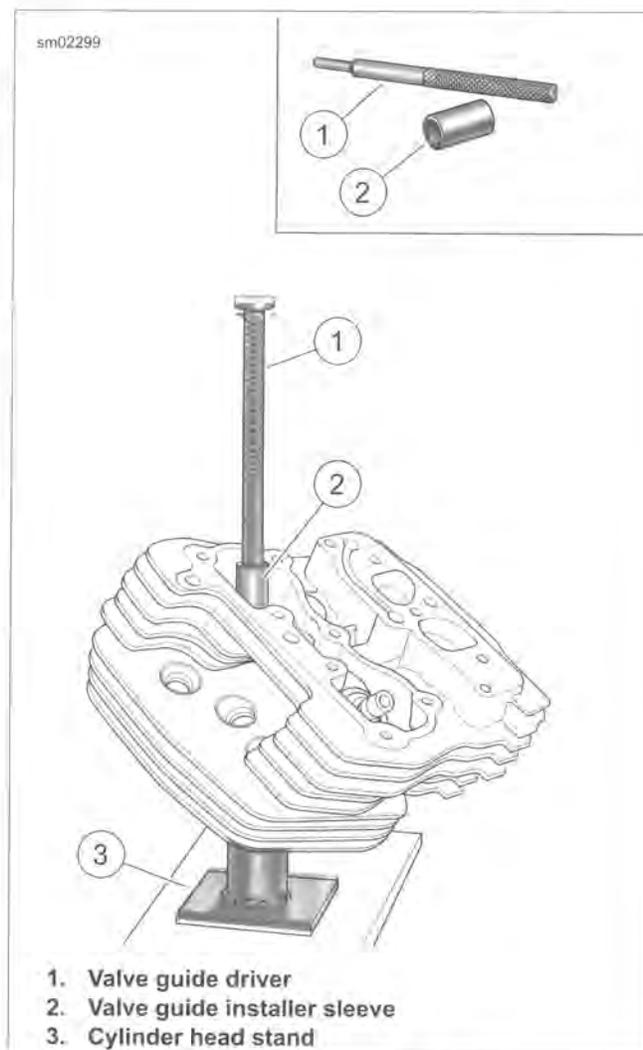

Figure 3-43. Install Valve Guide
- d. See Figure 3-43. Place VALVE GUIDE INSTALLER SLEEVE (Part No. B-45524-2A) (2) over valve guide and then insert valve guide driver (1) into sleeve.